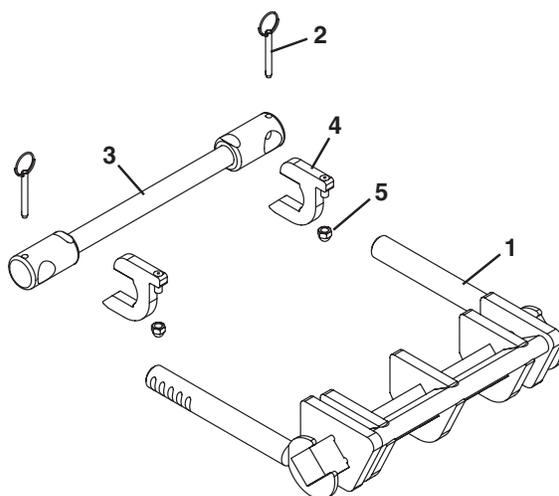

Figure 17
Typical Nose Bar Tip Up Tail Components (**Figure 17**)
Adjust the acorn nuts (Figure 17, item 5) on the key stops (Figure 17, item 4) to raise or lower the tip up tail assembly.